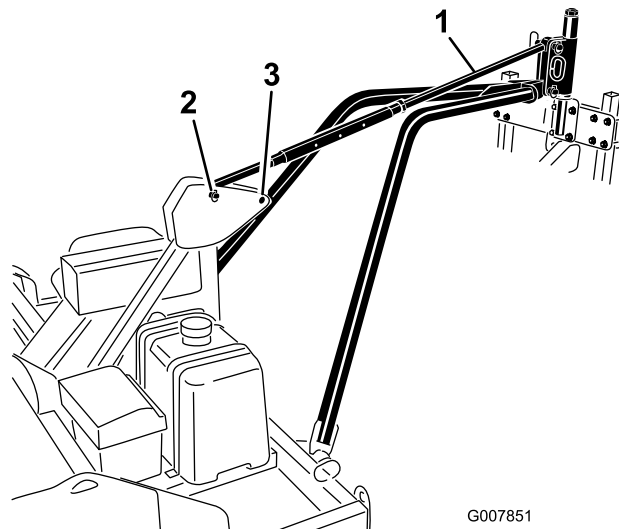

Figure 14
5. Align the hole in the tow arm hitch plate with the lower holes in the aerator hitch pivot (Figure 14). Secure the tow arm hitch plate to the aerator hitch pivot with a hitch pin and lynch pin.
7. Secure the pitch control link to the top holes in the aerator hitch pivot and the frame hitch pivot with hitch pins and lynch pins (Figure 14).